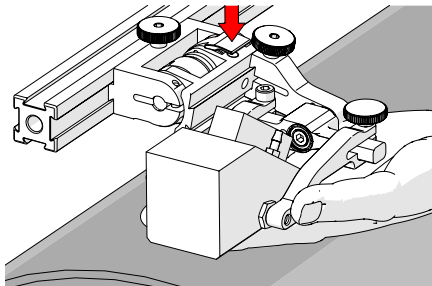

Fig. 85 - Lift and press latch button
3. Lift the probe slightly and press the latch button (Fig. 85) to apply spring pressure to the wedge.